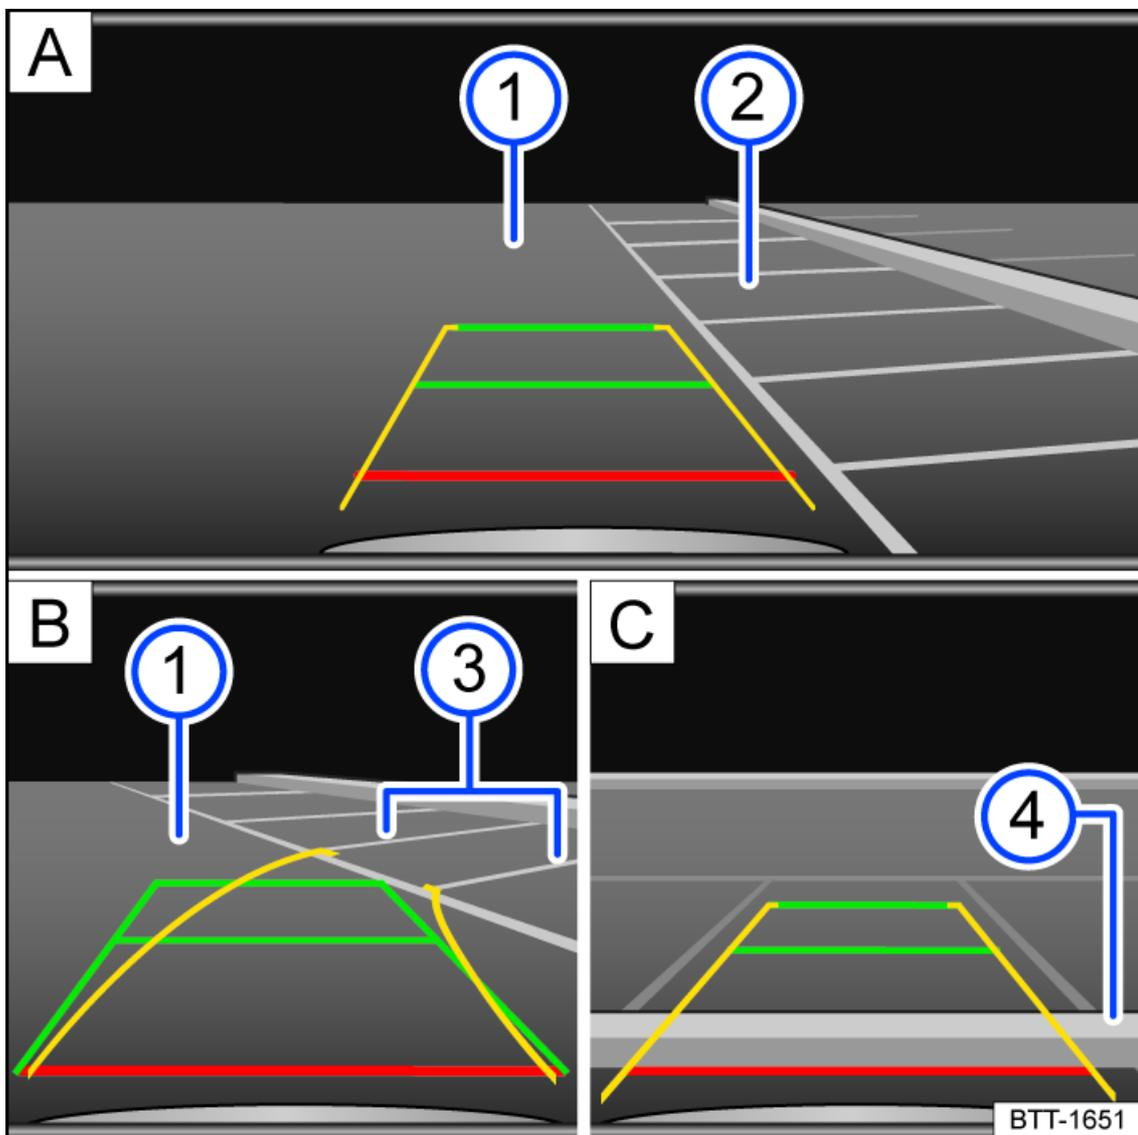

Fig. 125 Infotainment system: Parking perpendicular to the road.
- ① Road surface.
- ② Parking space.
- ③ Side boundary of the parking space.
- ④ Rear boundary of the parking space.
3. Position your vehicle in front of the parking space *fig. 125 A* ②.
4. Steer so that the yellow lines lead into the parking space. The green and yellow lines must align with the side boundary lines *fig. 125 B* ③.
5. Stop when the red line reaches the rear boundary *fig. 125 C* ④.